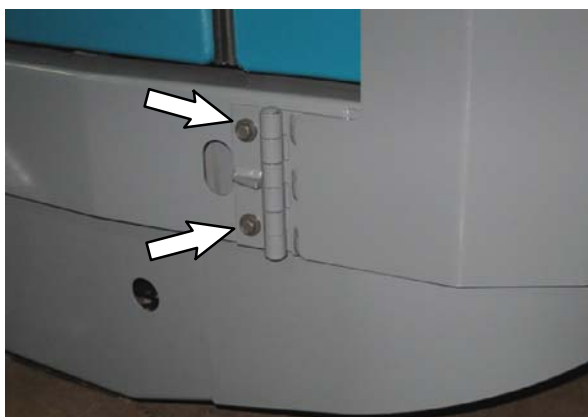

FIG. 2
5. Use two hex screws (4) to install both the left bumper tower (1) and right bumper tower (2) onto the machine. (Fig. 2 / Fig. 5)